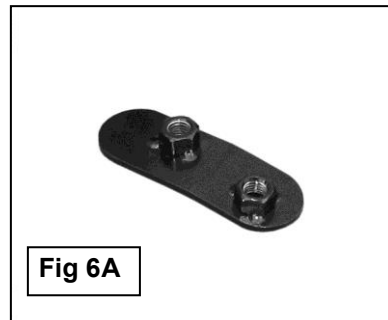

Fig 6A
4. Move along the floor panel to the center of the vehicle, (Figure 5). Select (1) 10mm Double Nut Plate, (Figure 6A). Insert the Nut Plate into the large hole in the floor panel reinforcement, (Figure 6B). Line up the threaded hole with the single small hole in the reinforcement, (Figure 7). NOTE: The Nut Plate is offset to line up with the offset holes in the floor panel reinforcement.